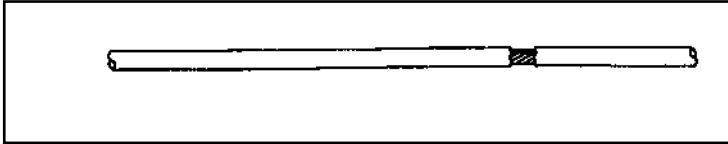

Figure 1
- A tear or crack in the cable sheath that exposes the cable. See Figure 1.